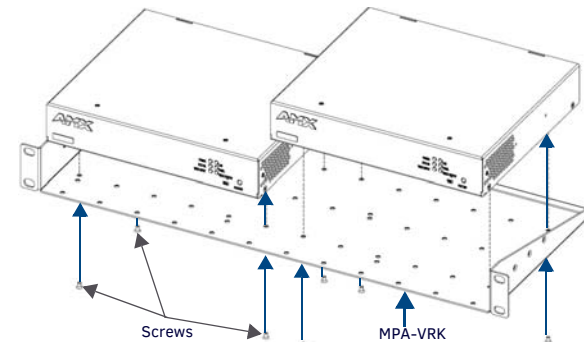

FIG. 6 INSTALLING TWO MXA-MP DEVICES IN A RACK MOUNTING TRAY
- Using the screws included with the MPA-VRK, install the screws to the bottom of the MXA-MP through the Rack Mounting Tray (FIG. 6). Use four screws for each device, one at each corner.